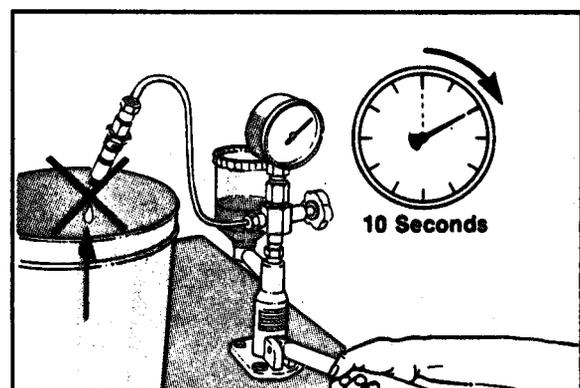

Figure 7-16
5. To test leakage, open valve and operate lever to hold pressure 290 psi (2,000 kPa) below opening pressure. No drops should fall from tip within 10 seconds (Figure 7-16).